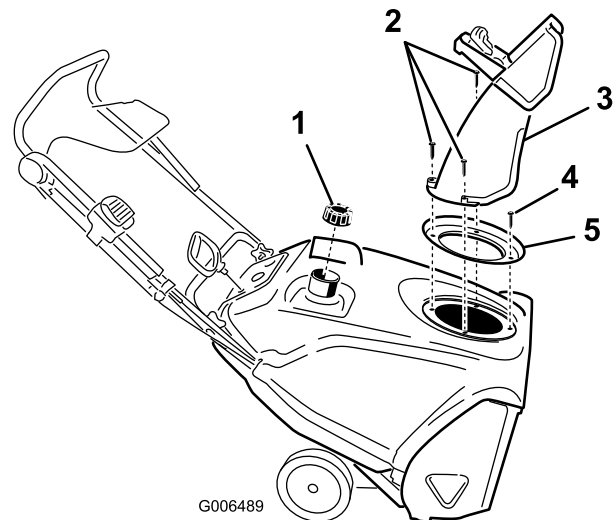

Figure 34
3. Remove the discharge chute, the discharge chute handle, and the chute seal by removing the 3 large screws and one small screw (Figure 34).